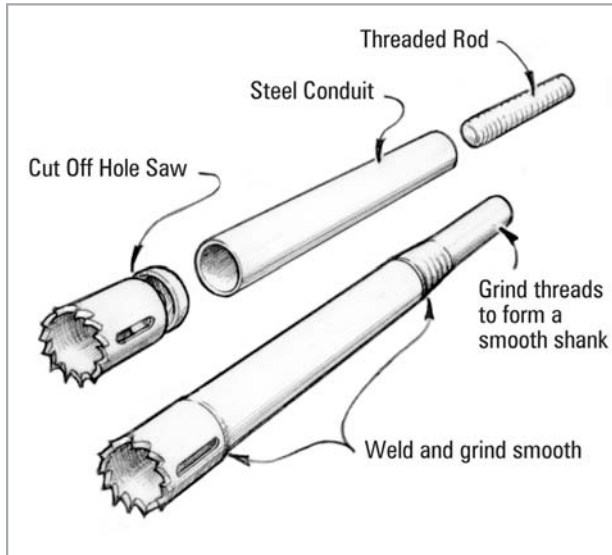

Figure 4-13 A custom keel bolt saw can be made from a pipe section and a standard hole saw.
2. Fabricate a deep engagement hole saw by first cutting the end off a hole saw of slightly larger diameter than the bolt to be repaired. Braze the hole saw teeth to the end of a pipe of the same diameter and long enough to chase the length of your longest keel bolt. Weld a piece of round stock into the other end of the pipe to serve as a bit for a drill chuck. If you have many bolts of many lengths to do, you may want to make several hole saws of different lengths (*Figure 4-13*).